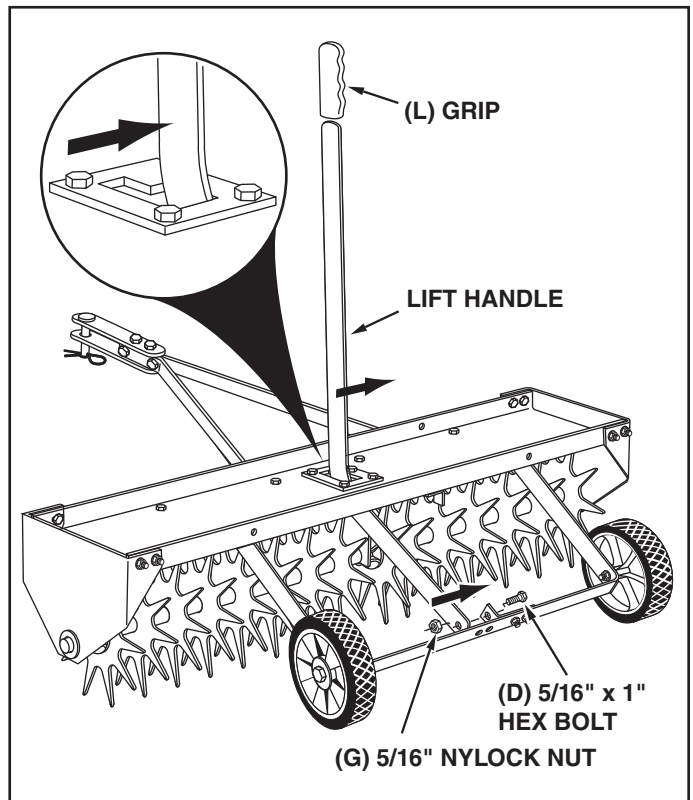

FIGURE 7 **REAR VIEW**
13. Assemble the lift handle through the tray and attach it to the hitch arm mount bracket assembled to the axle bracket. Use a 5/16" x 1" hex bolt (D) and a 5/16" nylock nut (G). **Tighten.** See figure 7.
14. Position the hitch arm mount bracket so that there is side tension on the lift handle when it is locked in the up position. **Tighten** the nuts. See figure 7.
15. Assemble the grip (L) onto the end of the lift handle. See figure 7.